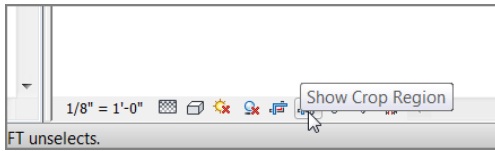

FIGURE 13.5: Turning on the crop region from the View Control toolbar
9. In the Level 1 floor plan, turn on the crop region by clicking the Show Crop Region button on the View Control toolbar, as shown in Figure 13.5.